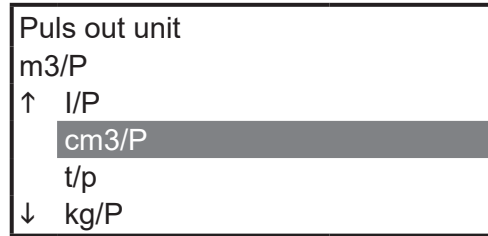

Figure 23 Selection of pulse weight unit
- When the display as that shown in Figure 23 appears, use the up or down arrow to select the required unit from the six types listed. (kg/P, g/p, t/P, cm³/P, l/P, m³/P)